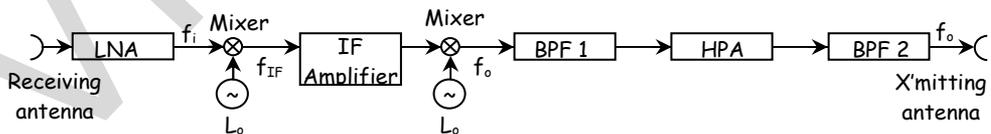

Fig. 3
- In above Fig. 3 two frequency conversions are carried out therefore named as double-conversion transponder.
- Amplified signal then fed to first mixer (I).